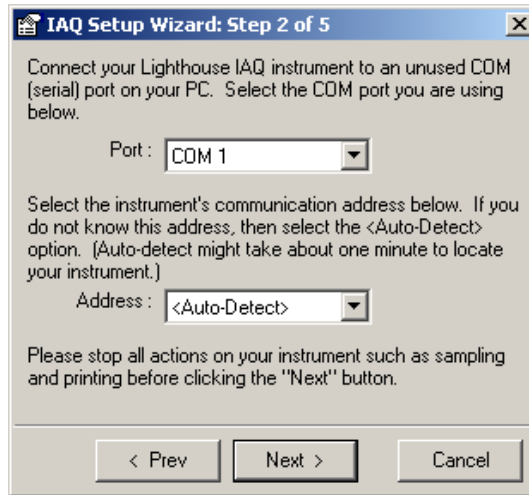

Figure 5-3 IAQ Setup Step 2
2. At the next screen, verify that the COM port shown in the Drop down is correct and change it if needed. If a USB-RS232 converter will be used, make sure it is connected and the driver installed before attempting to use it to connect to the instrument. Choose its COM port (usually higher COM numbers such as 5 or 6). The illustration in Figure 5-3 shows the Default COM 1.